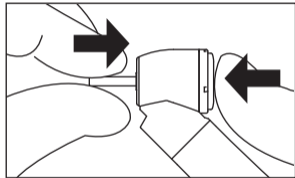

Fig. 4
- 1) Insert the bur until it is correctly seated in place. (Fig. 4)